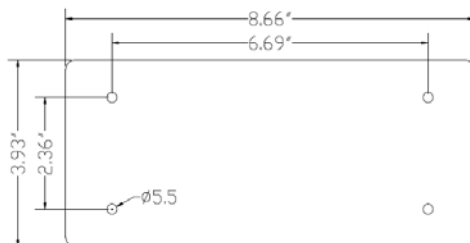

FIG.2
4. Mount the fixture by drilling through back of fixture securing it to the mc hardware supplied by others for the surface. Use template to locate mounting holes (see FIG.2).